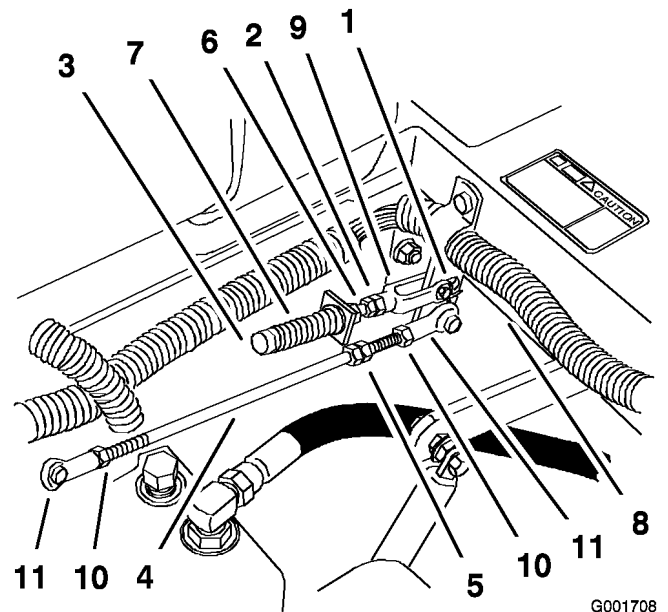

Figure 58
8. If adjustment is needed, loosen the nut and jam nut against the yoke (Figure 58).
9. Apply slight rearward pressure on the motion control lever, turn the head of the adjustment bolt in the appropriate direction until the control lever is centered in the neutral lock position (Figure 58).
10. Tighten the nut and jam nut (Figure 58).